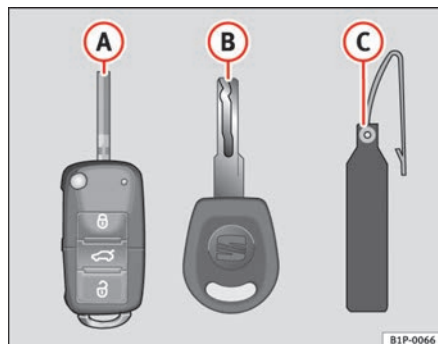

Fig. 43 Set of keys
- a remote control key ⇒ fig. 43 **A**
Spare keys cannot be issued without the key number on the key tab ⇒ fig. 43 **B**. Therefore: